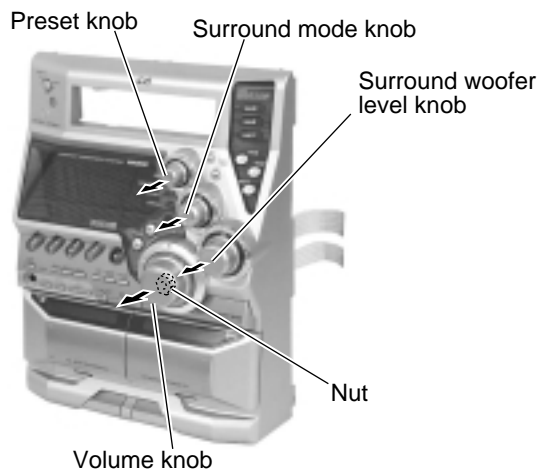

Fig.37
■ Removing the operation switch board (See Fig.37 and 38)